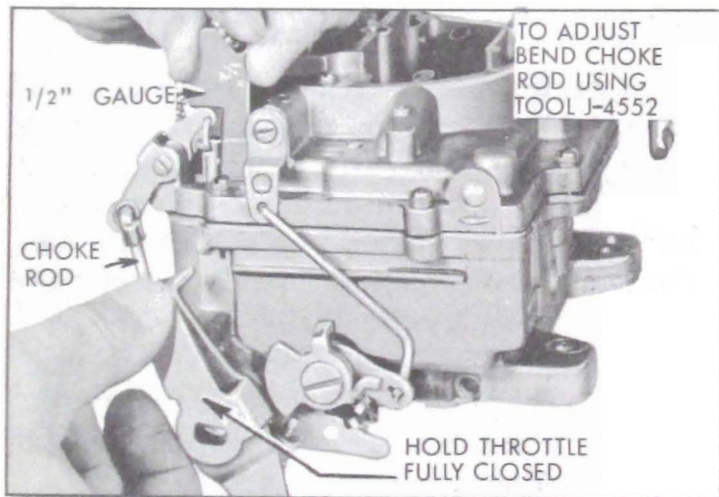

Figure 3-54—Pump Adjustment
20. *Adjust Pump.* Push fast idle cam aside and back out throttle stop screw until throttle valves seat in throttle bores. Measure from air horn to top of plunger shaft with scale. Bend pump rod at lower angle as required to obtain $\frac{1}{2}$ " measurement using Tool J-4552. See figure 3-54. Turn throttle stop screw in (from fully closed throttle position) $\frac{3}{4}$ turn which should provide an initial idle adjustment.